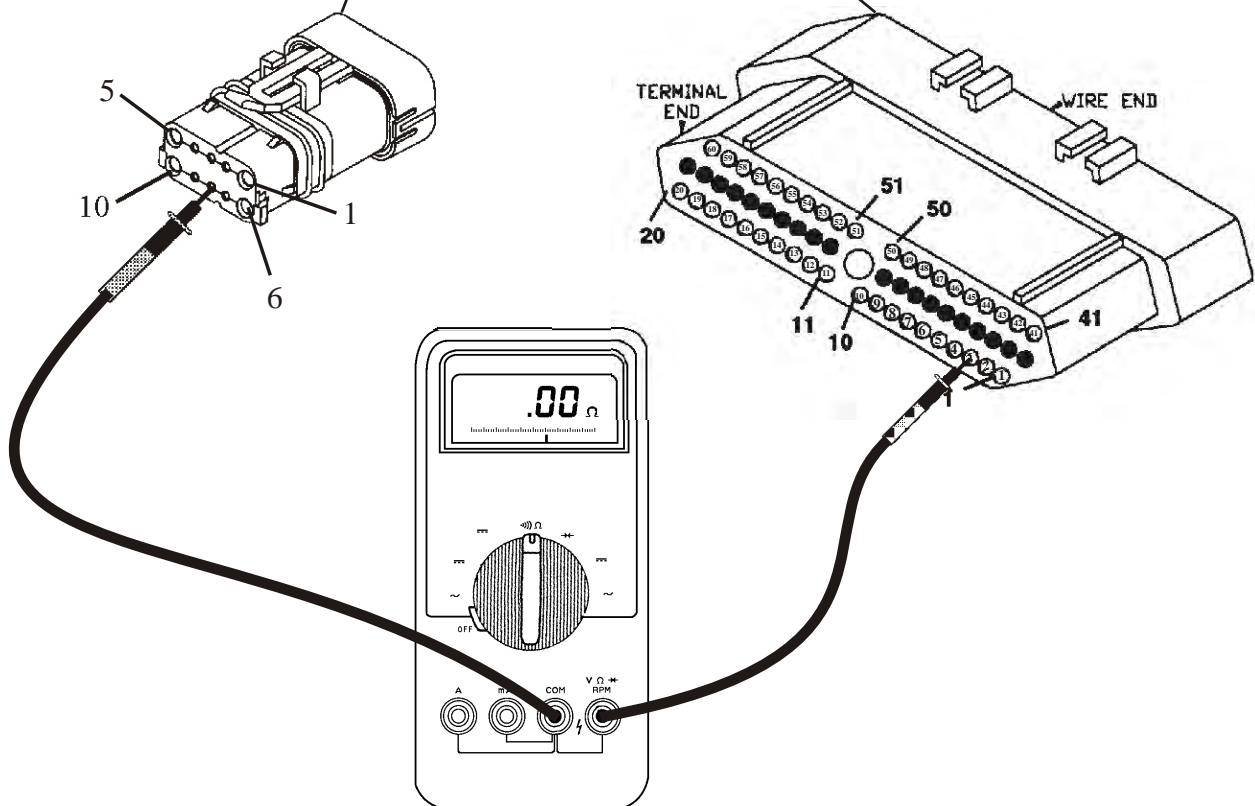

Figure 41
- Once the circuit which malfunctioned has been identified, a continuity check should be made on that circuit. Use the chart found in Figure 41 to assist in identifying the specific circuit or circuits in question. For example, if the scanner reveals that the T3 (C3) circuit does not close when the selector lever is placed in Park, 3 or 1, that specific circuit will need to be checked. In the chart below circuit T3 is the wire which runs from the number eight cavity in the TRS connector to the number three cavity in the TCM connector.